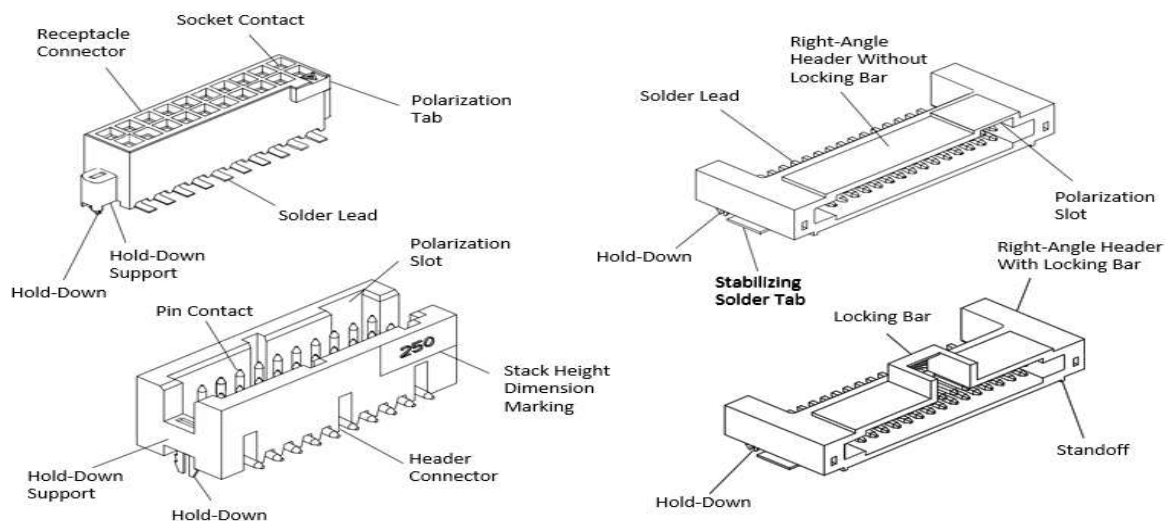

Figure 1
When corresponding with TE Connectivity (TE) Representatives, use the terminology provided in this specification to facilitate your inquiry for information. Basic terms and features of the connectors are provided in Figures 1, 2 and 3.
The number 1 molded on the mating face of the housing provides circuit identification, and the number in the rectangular block molded on the side of the vertical connector housing provides the stacking dimension (in thousandths of an inch) between pc boards when two connectors are fully mated. See Figure 1.